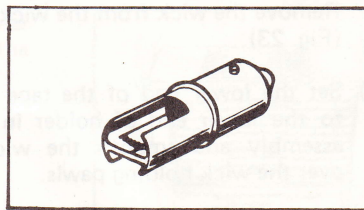

Fig. 27
- (3) Insert the new glow plug in a manner so that the guard of the glow plug is at the lower side. (Fig. 27)